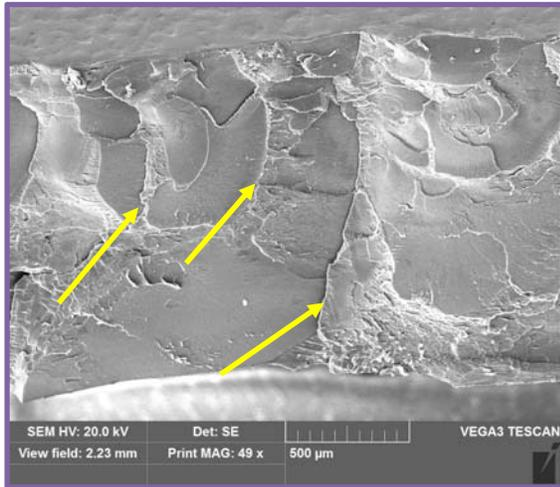

Figure 6 – Scanning electron micrograph showing multiple crack unions on the fracture surface.
**Crack Unions:** The ridges formed by the unification of two separate cracks, crack unions, are usually oriented parallel to the crack propagation direction (Figure 6). The ridges often appear as steps and may exhibit more ductility in the form of stretching than the surrounding fracture surface.